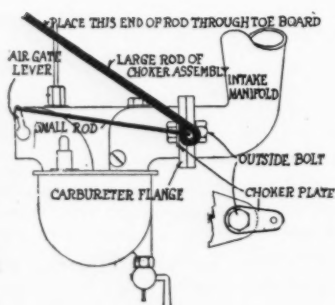

Fig. 493—Choker assembly for Heinze-Springfield installation on Ford car
**B**ORE a  $\frac{3}{8}$ -inch in the floor or toe board 2 inches to the right of the coal box and 2 inches back from dash. Take off the outside bolt, where the manifold is connected to the carbureter. Place the free end of the large rod through the hole in the floor board. Fasten the hook of the small rod on the air gate lever and then secure the flat plate to the carbureter flange, with the small end pointing outward, by the bolt previously removed. The plate should be fastened on the side of the flange toward the back of the car and the large rod should come over the top of the plate as shown in Fig. 493.
The brush may be grounded as follows: Remove the brush cover and the brush screw, 7 x 13, Fig. 493, with the metal and fiber washers, 2 x 8, and 2 x 10, respectively. Now remove the fiber washer, 2 x 10, from the screw and replace the screw, 7 x 13, and metal washer, 2 x 8, screwing same down tightly. If all other conditions are normal the charging rate should be increased from 5 to 10 amperes.